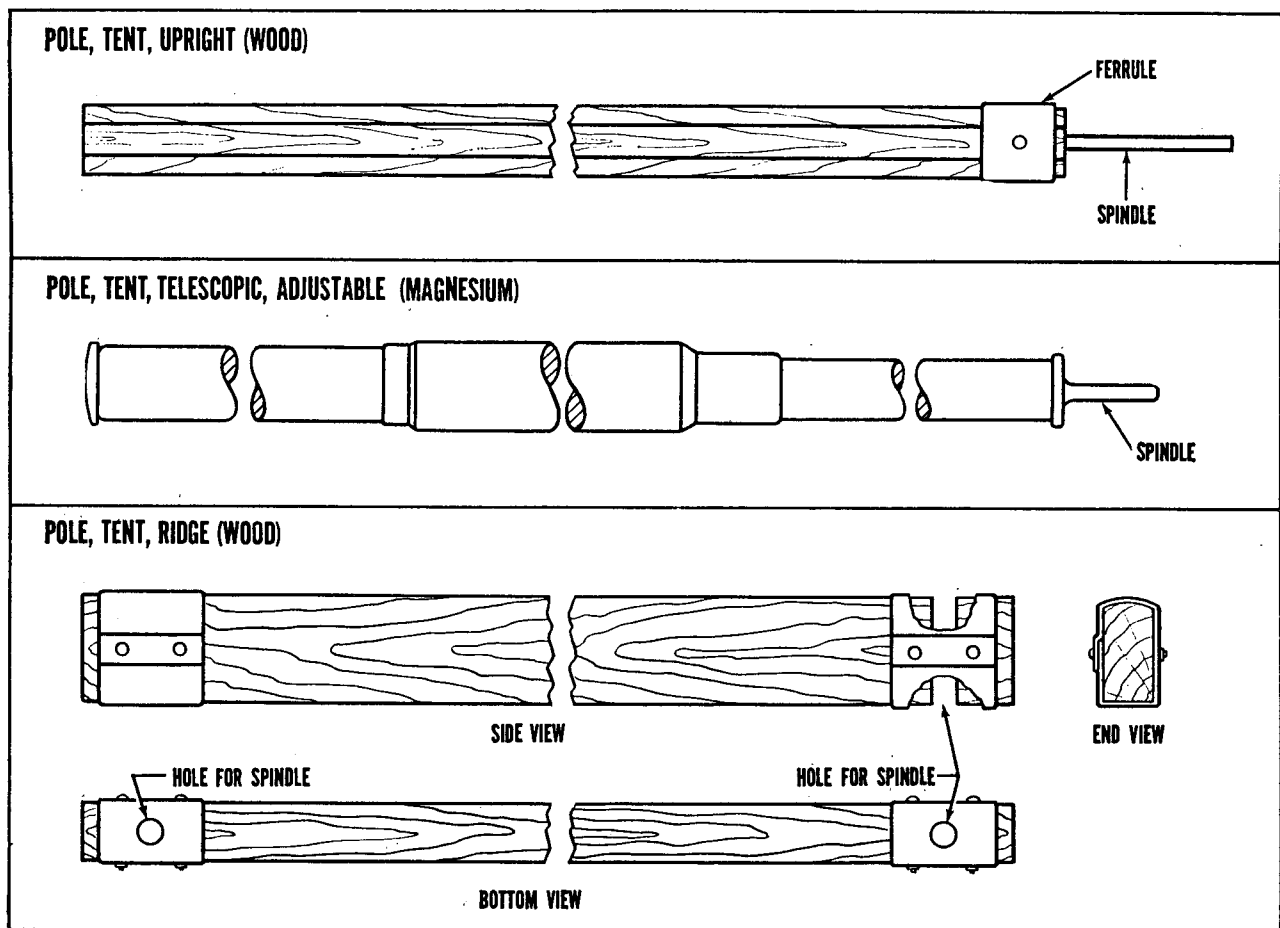

Figure 99. Tentpoles.
(1) The wood frame arches are hinged so that arch segments can be folded for transport. Wood purlins, connected between arches, extend the tent frame to the proper tent length.
(2) The metal frame arch segments are assembled by inserting one segment end into another segment end and fastening the two arch segments together with locking pins, bolts, or purlins. Metal purlins, connected between arches, extend the tent frame to the proper tent length.
a. *Types of Tentpoles.* Tentpoles (fig 99) are of two types: upright and ridge. A ridge pole is usually fastened to two upright center poles by placing the spindles of the upright poles through holes at the ends of the ridge pole.
(1) Poles are made of wood except the magnesium adjustable telescopic pole used in the 10-man arctic tent, small general purpose